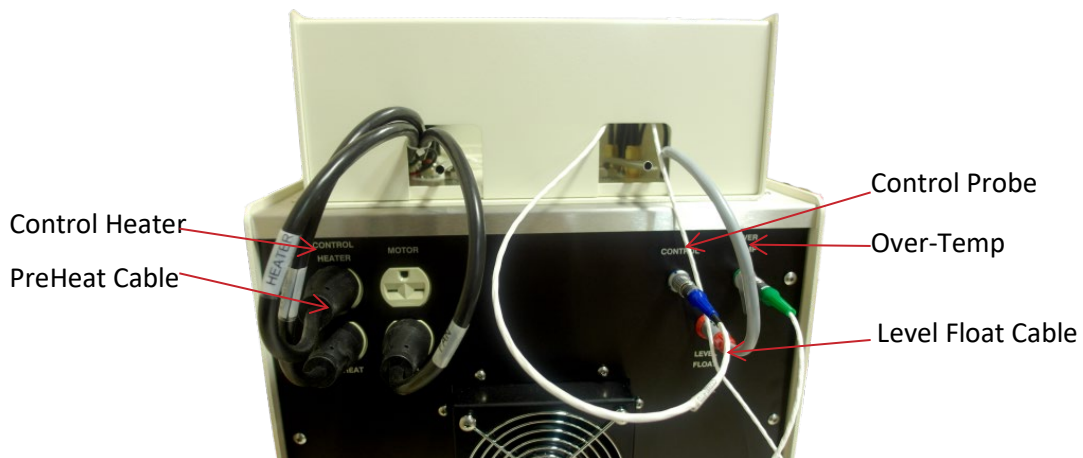

Figure 14: CT-2000 Electrical Connections
17. Connect all plugs and probes to the correspondingly labeled sockets at the rear of the CT-2000 bath unit as shown in Figure 14 and in the following list.